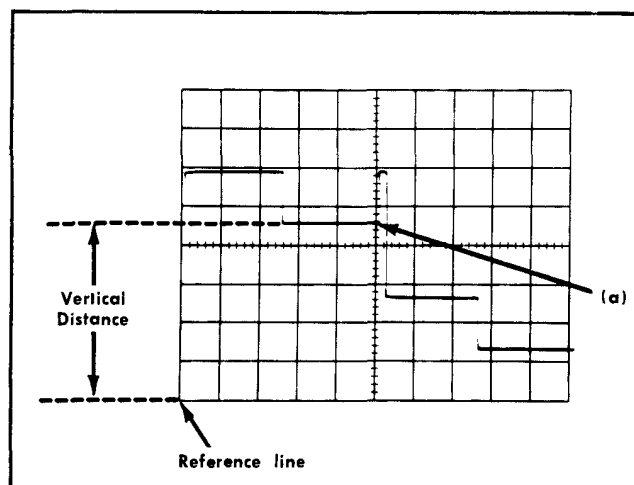

Fig. 2-11. Measuring instantaneous DC voltage with respect to a reference.
9. Measure the distance in divisions between the reference line and the point on the waveform at which the DC level is to be measured. For example, in Fig. 2-11 the measurement is made between the reference line and point A.
**Example:** As an example of this method of measurement, assume that the vertical distance measured is 4.6 divisions (see Fig. 2-11) and the waveform is above the reference line using a 10× attenuator probe and a VOLTS/DIV switch setting of 2.